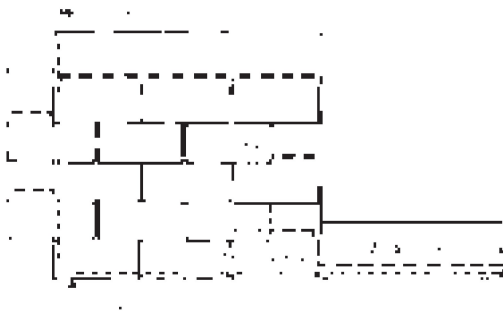

Figure 10-12: Vertical Racking Method.
**1ST COURSE:** Apply a full shingle at the lower left corner of the roof, tabs flush with the starter course (Figure 10-12).
**2ND COURSE:** Cut 6" off the left end of a shingle and apply the 30" piece over the first-course shingle, flush with the left edge and exposing the first course 5" (Figure 10-12).